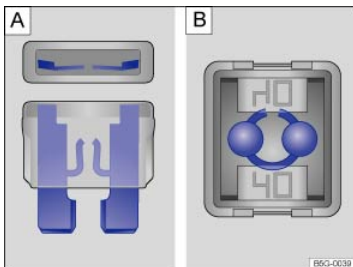

Fig. 199 Blown fuse: : Blade fuse. : JCASE® fuse.
- A blown *blade fuse* (ATO®, MINI®) has metal strips that have burned through, which you can see through the transparent housing from above and from the side ⇒ *Fig. 199* **A**.
- A blown *cartridge fuse* (JCASE®) has metal strips that have burned through, which you can see through the transparent housing from above ⇒ *Fig. 199* **B**.